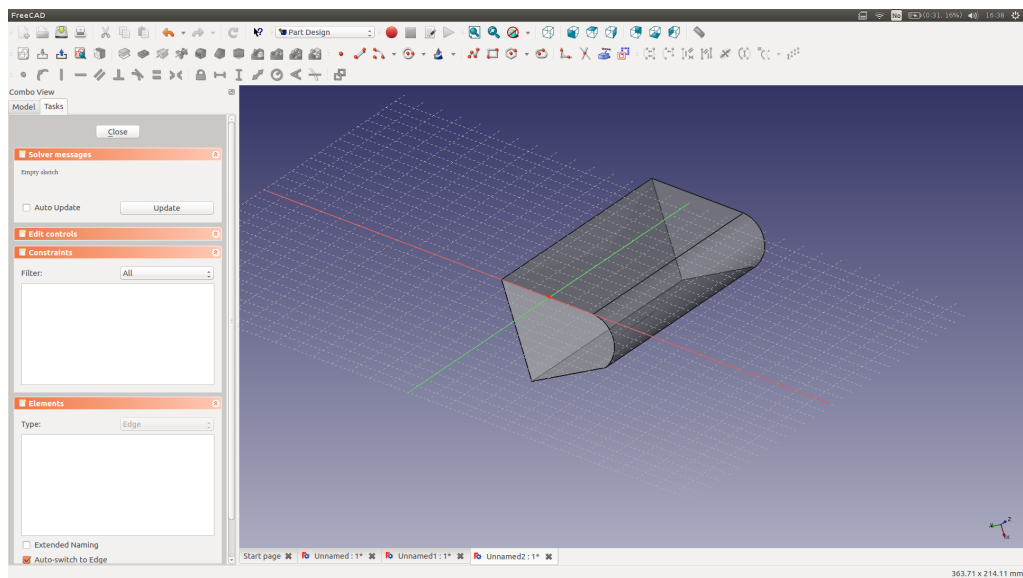

Figure 6: A sketch can be created on any planar face.
- Let us now say that we want to drill a hole in our shape, perpendicularly to the inclined face. Click on the inclined face to select it. Then, while it is selected, click on the **Create a new sketch** button. This will open the sketch editor with the plane in which you will be sketching set as the face that was selected. Move around as shown on Fig. 6 to get convinced about that. Once you are done looking at the position of your sketch in 3D, click on the **View sketch perpendicular to sketch plane** button to come back to a normal view.